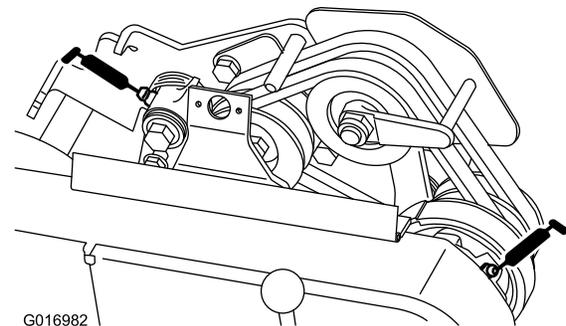

Figure 20
- 2 on the belt idler pivots (Figure 20).